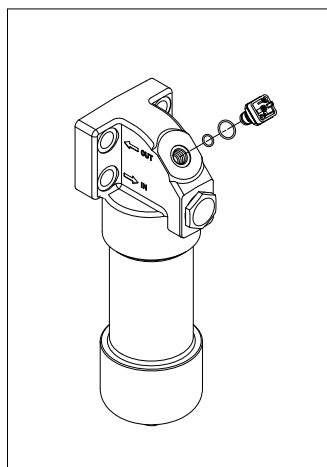

fig. 32
- (Fig. 32) Replace the O-rings of the indicator body